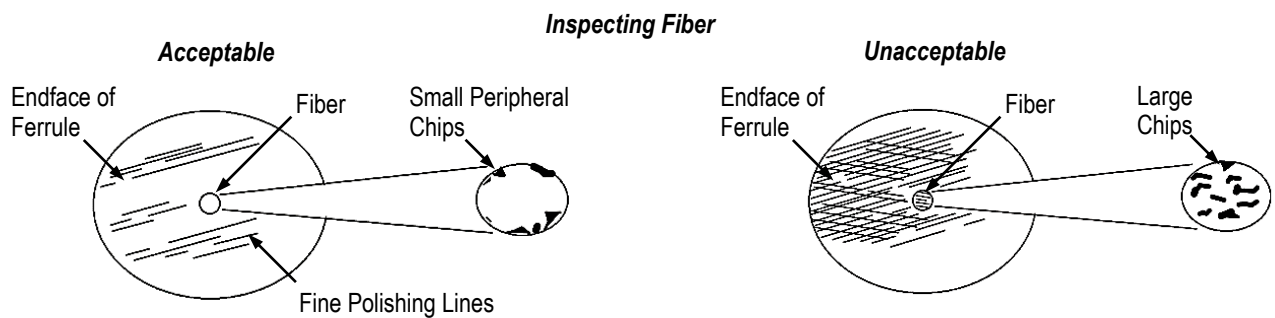

Figure 7
1. Using the fiber optic inspection microscope kit, inspect the endface of the ferrule and fiber according to the following criteria (refer to Figure 7):